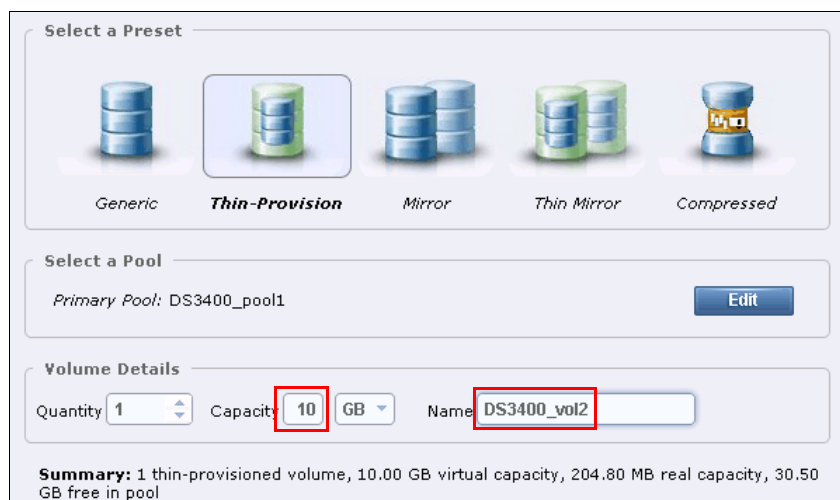

Figure 5-7 Create a thin-provisioned volume
1. From the Volumes selection in the dynamic menu, choose **Create Volume** and select **Thin Provision** (Figure 5-7). Enter the required capacity and volume name.